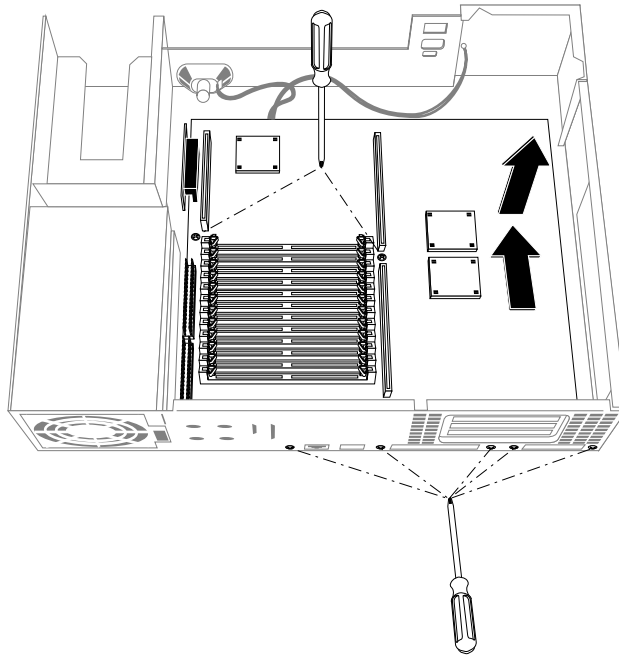

Figure 8-39 Removing the Screws From the Back of the Chassis
- Remove the five screws from the back of the chassis that hold the board to the chassis, as shown in Figure 8-39.
- Remove the small screw from the left side of the baseboard, as shown in Figure 8-39.
Note: In some older Indigo² systems the gold screw in the center of the CPU baseboard (as shown in Figure 8-39) should also be removed. In newer systems this screw was already removed when you removed the backplane earlier.